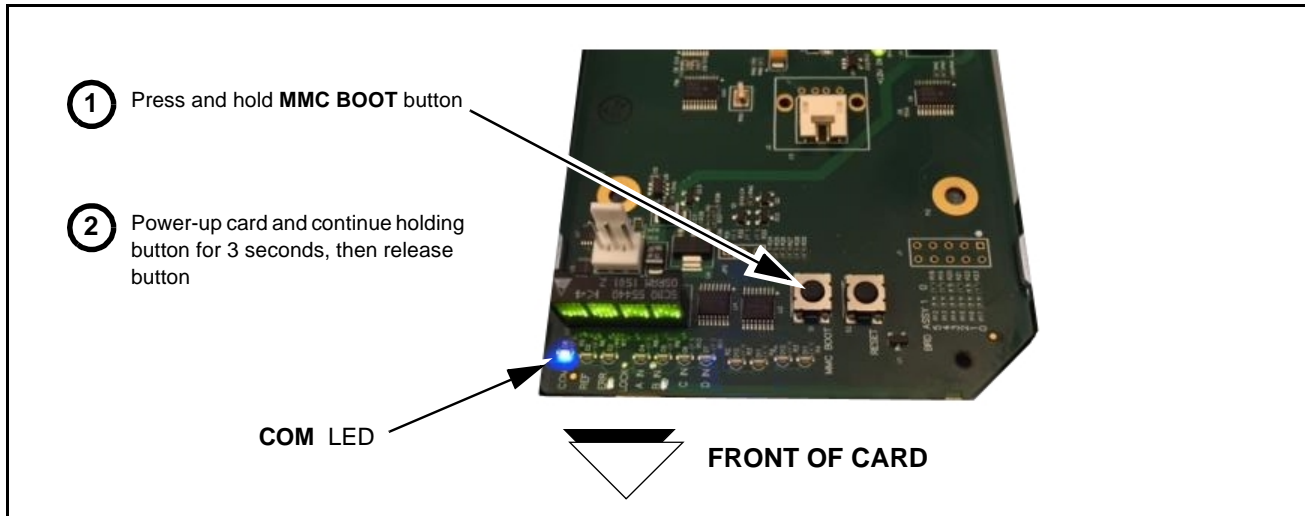

Figure 3-10 MMC Boot Button
2. (See Figure 3-10.) With card powered-down, locate the **MMC BOOT** button on the card. Proceed as shown in picture.
3. (See Figure 3-10.) With card powered-down, locate the **MMC BOOT** button on the card. Proceed as shown in picture.